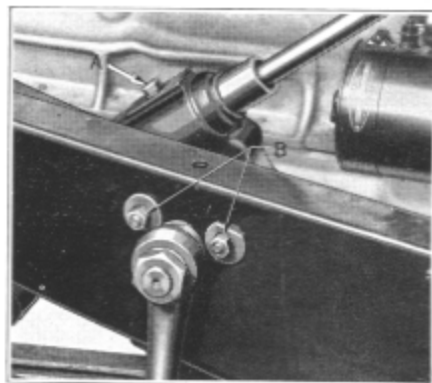

Figure 21
Loosen the three gear housing bolt nuts (B) (one not shown), Figure 21, just enough to allow gear to shift in frame to line up at angle determined by height setting of instrument board gear bracket and retighten gear housing
To raise or lower steering wheel to suit the requirements of the driver, loosen three gear housing bolt nuts (B) (one not shown), Figure 21, as well as steering column bracket nuts under the instrument panel. Set wheel in desired position, insert or remove shims, and tighten column bracket nuts. Turn steering wheel to right and left to align gear on frame and tighten frame bracket nuts.
The housing should be filled at all times with a good grade of S. A. E. 160 E. P. gear oil in summer and S. A. E. 90 E. P. gear oil in winter. The lubricant can be injected after removing filler plug (A), Figure 21. Fill with recommended lubricant until it reaches the level of the filler hole. Replace oil filler plug to prevent dirt from entering housing. Lubricant change should be made with change of season.